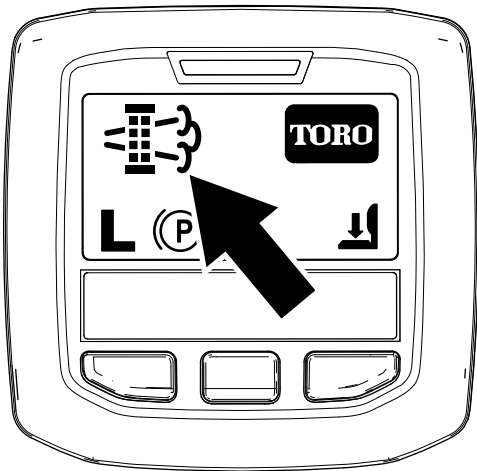

Figure 74
- When the engine computer requests either a parked regeneration or a recovery regeneration, the regeneration request icon (Figure 74) displays in the InfoCenter.